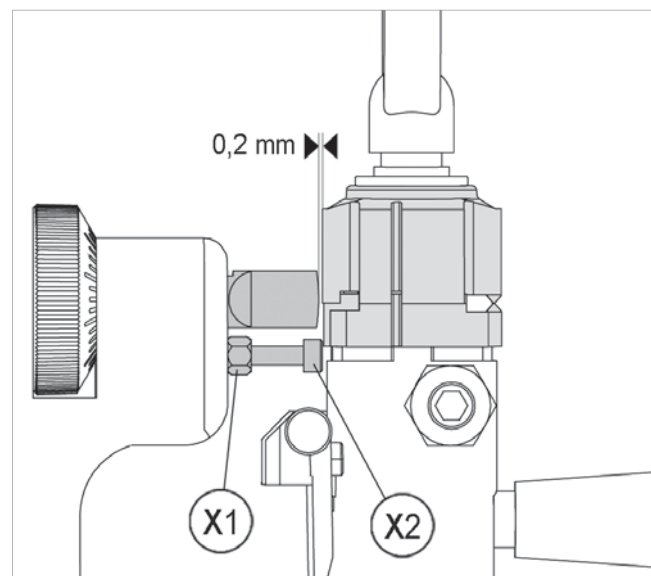

Fig. 38
- 1) Raise the carriage against the cutting tool and take to the end of its run (Fig. 38)